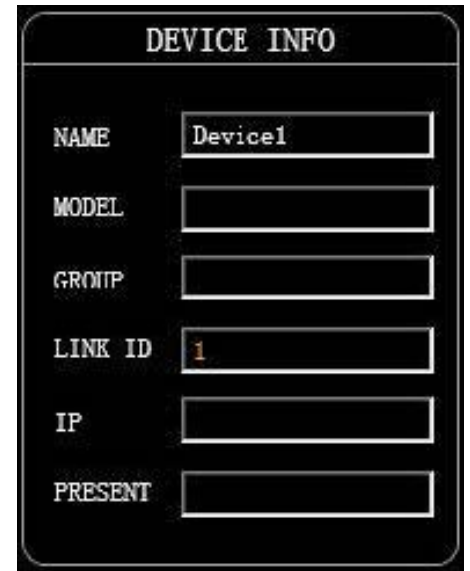

Figure 6.1.2
1. As shown in Figure 6.1.2, the device name, group, and IP can be modified in the upper left corner of the initial interface, and then “device”-“devices”, information can be changed according to actual needs.